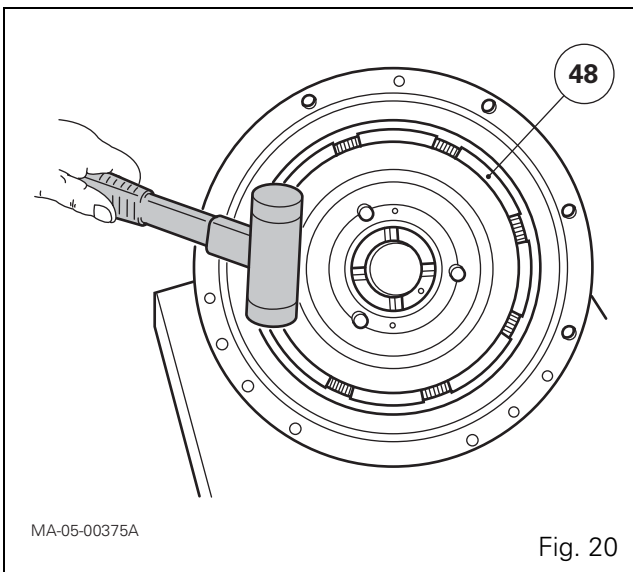

Fig. 20
58. Clean the cover plate. Make sure that the 17-bar channel and the lubrication channel are not blocked. Check that the sealing rivets (2) and (11) are present.
59. Fit the seals (22) and (23) on the piston (48).
60. Lubricate the mating faces of the piston seals in the cover plate (27).
62. Fit the piston (48) using a plastic hammer, gradually and alternately striking around the circumference of the piston (Fig. 20).